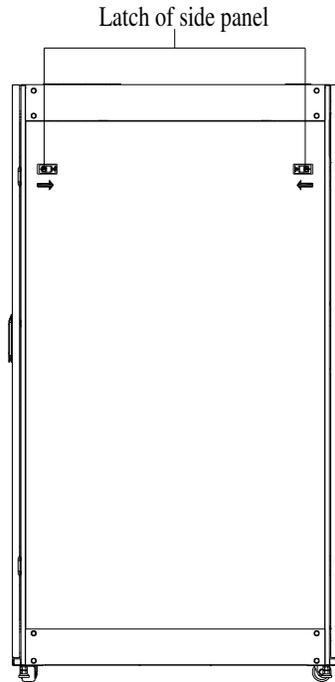

Figure 3-4 Side Panel Disassembly
1. Use the key to twist the lock core to the open position, as shown in Figure 3-4, and toggle the latch inwards with your finger.